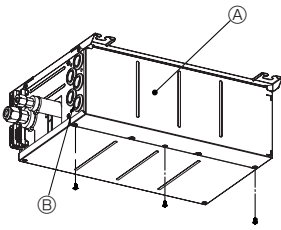

Fig. 8-1
1. Remove the electric cover. (Fig. 8-1)